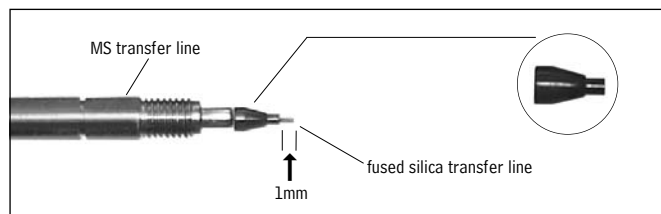

Figure 1
3. Place the ferrule (provided cat. # 21043) onto the 100 μ m fused silica transfer line (provided), then cut the end squarely (Fig. 1).
NOTE: For best results, cut the 100 μ m fused silica transfer line to approximately 8 inches. Install the ferrule onto one end of the line. Slide the other end of the line through the MS transfer line and cut approximately 1mm beyond the front of the ferrule (Fig. 1).
| | Incorrect ferrule alignment/placement | See Figures 1 and 2 for correct ferrule placement. |